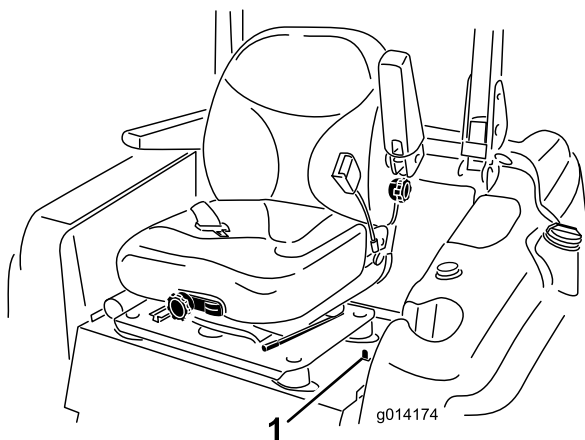

Figure 25
1. Move the seat latch, located on the left side of the seat, rearward to unlatch the seat and pull forward on the top of the seat (Figure 25).